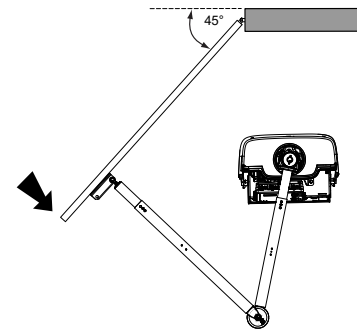

Figure 29. Test the Taper Clamp
5. To test taper clamp slip, push the end of the gate with 50-75 pounds of force to simulate a gate strike. (Figure 29).